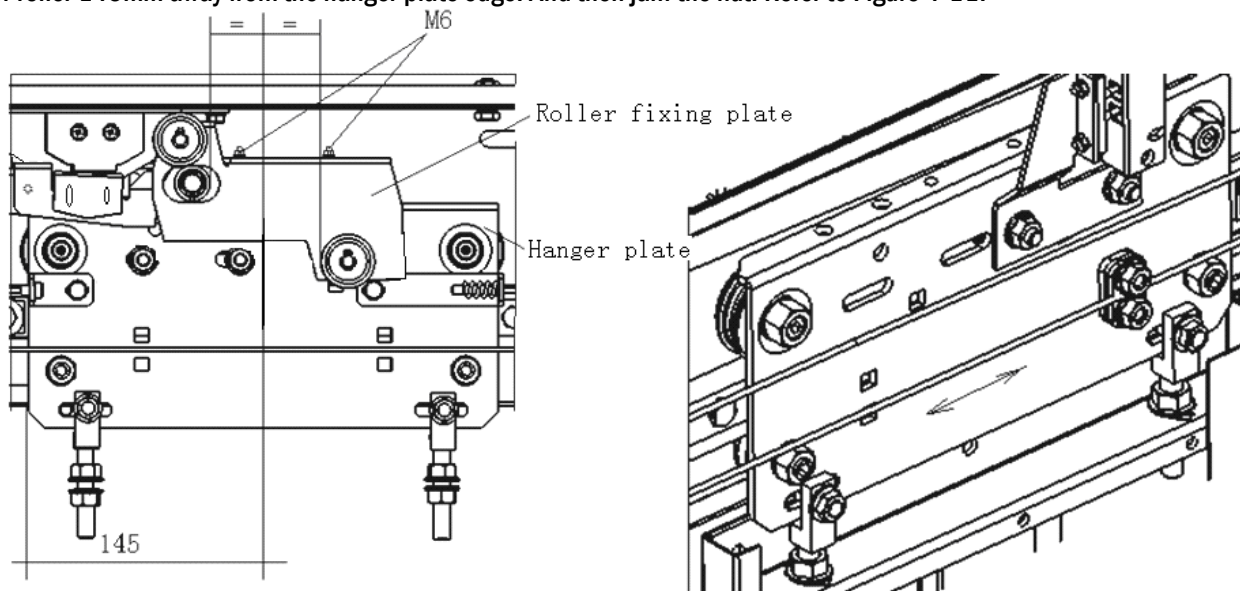

Figure 4-11 Second Adjustment Drawing of Landing Door Lock
b) Loose two nuts M6 on the door roller fixing plate; move the plate lightly and adjust the centerline of the two door roller 145mm away from the hanger plate edge. And then jam the nut. Refer to Figure 4-11.